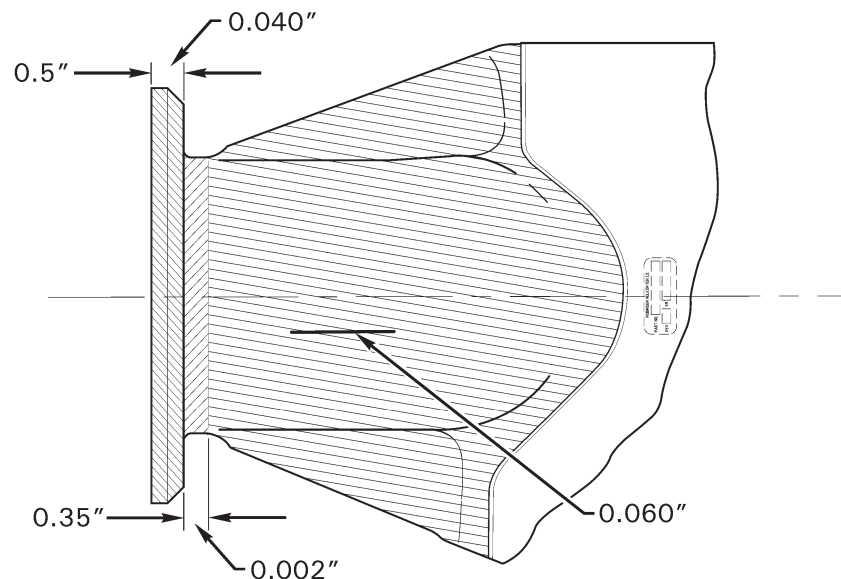

FIGURE 62-14 ROOT FITTING DAMAGE
1. Refer to Figure 62-14. Verify damage does not exceed the following limits: